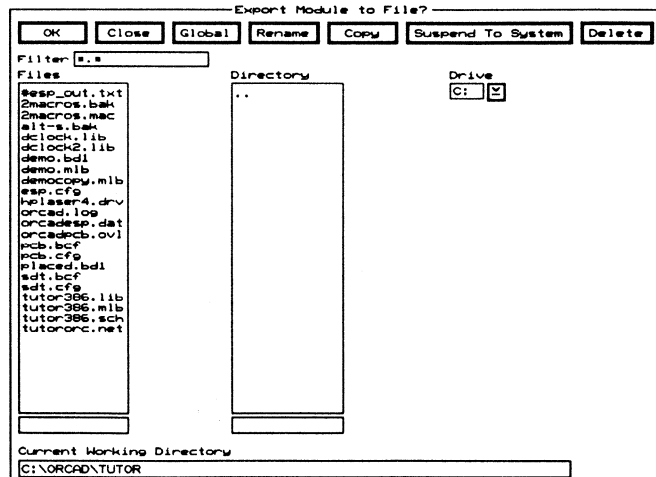

Figure 5-12. The *Export Module to File* dialog box.
2. Select **Export**. The **Export Module to File** dialog box displays (figure 5-12).